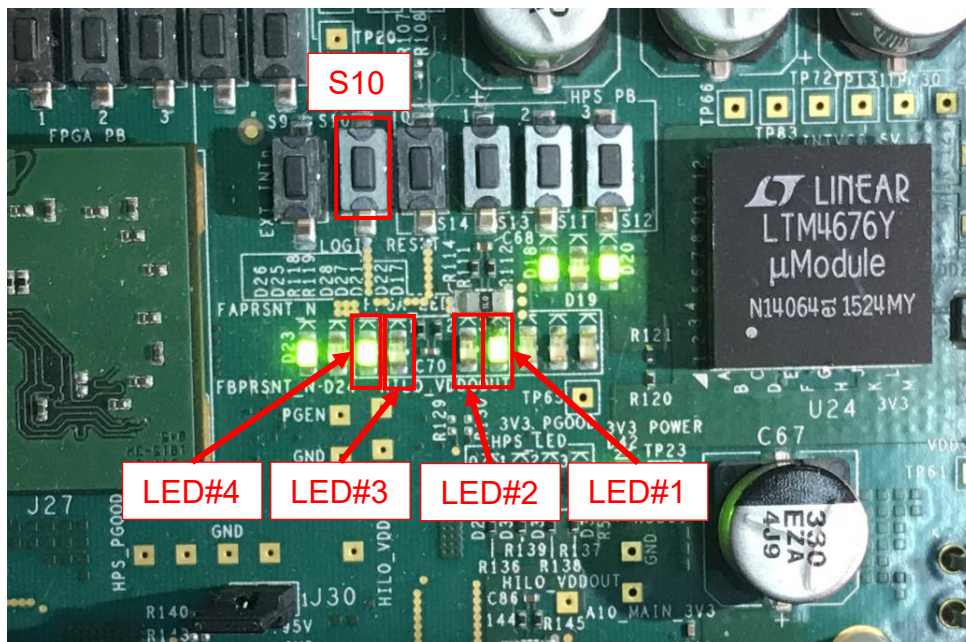

Figure 3-3 LEDs status on board
- 6) When configuration is completed, user can check status LEDs on board as Figure 3-3